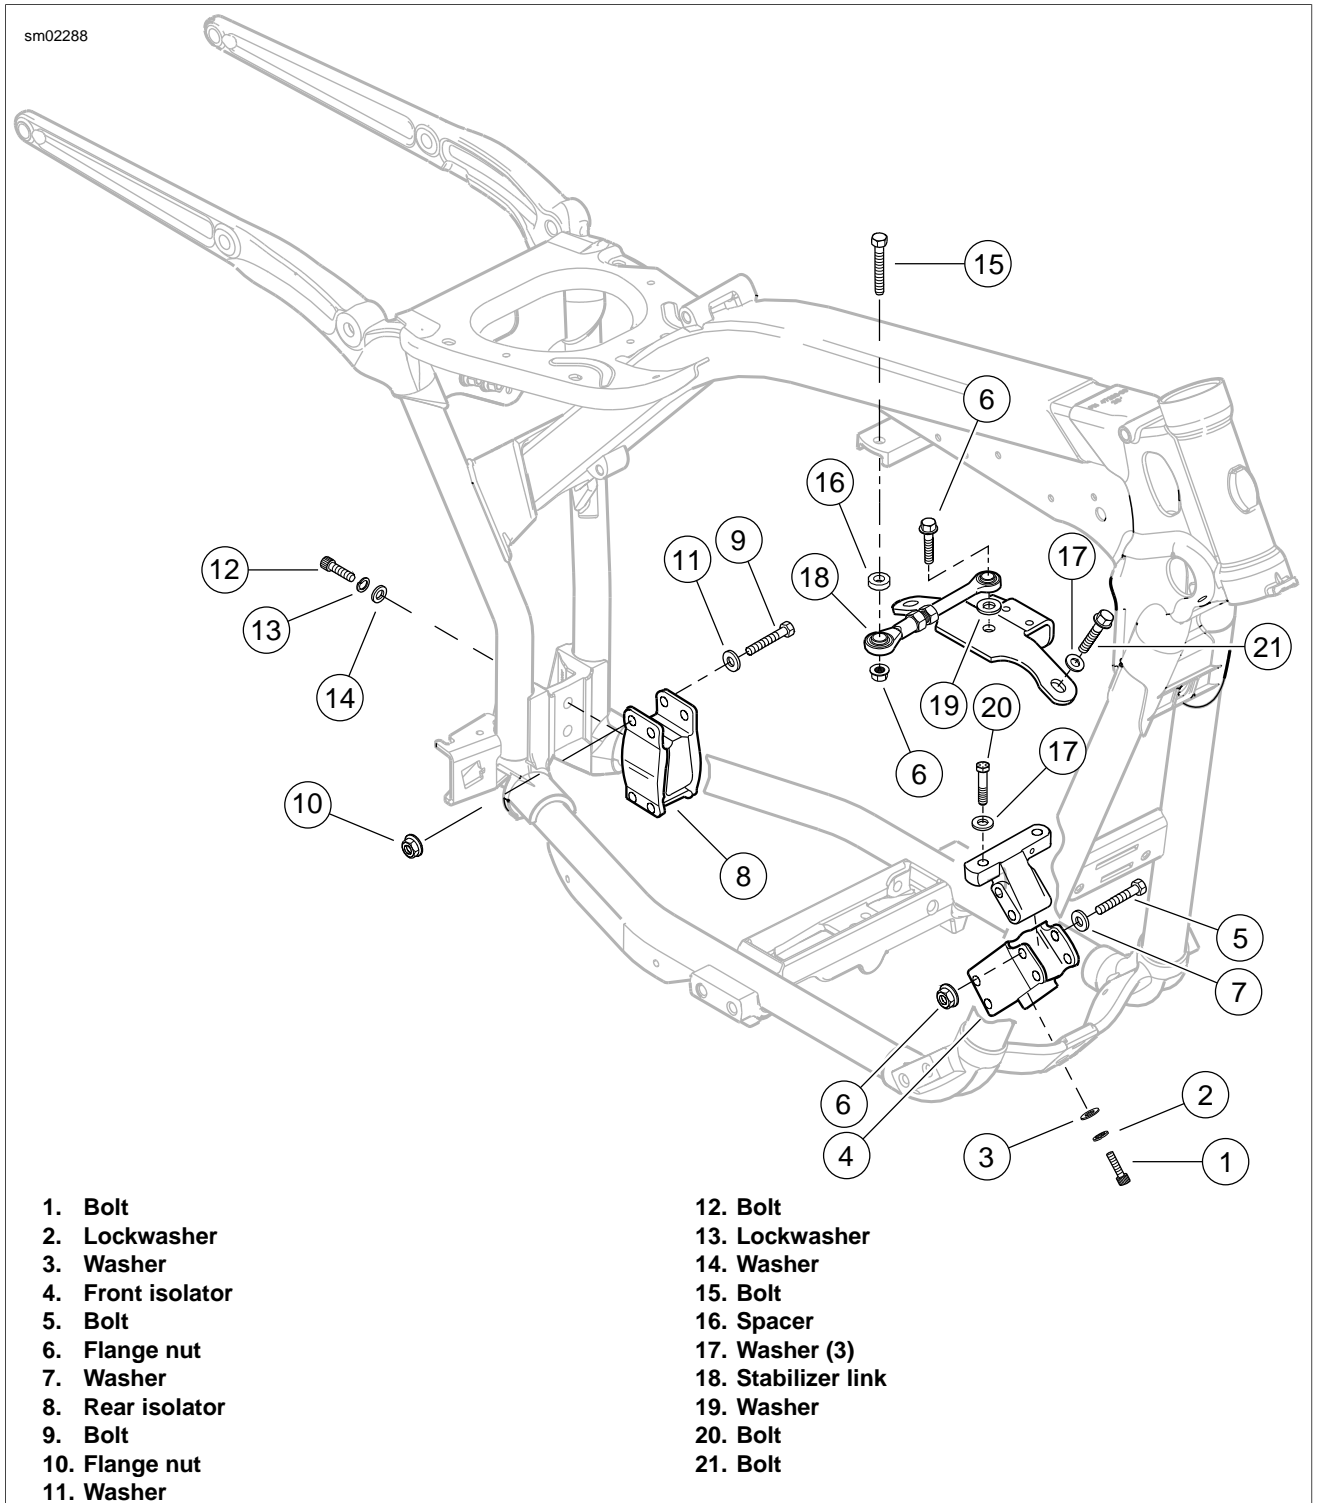

Figure 1-50. Engine Mounts
1. See Figure 1-50. Check for cracks or tears in the isolator rubber.